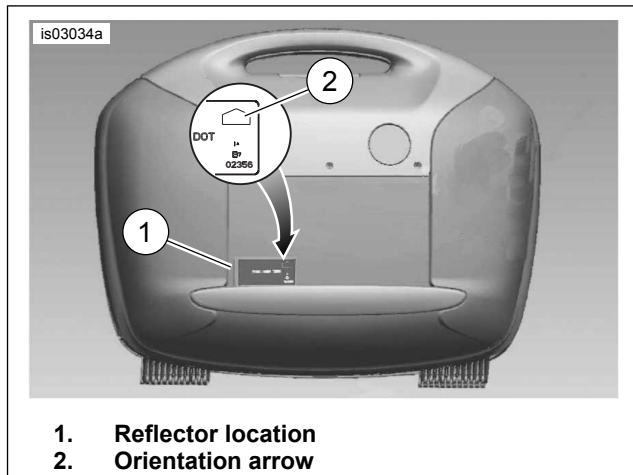
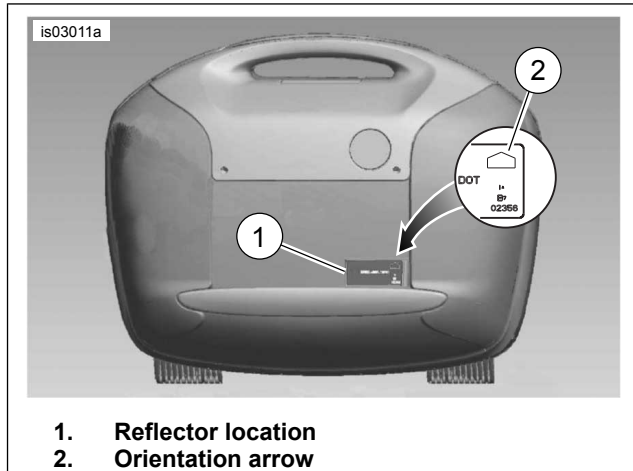

Figure 2. Reflector Mounting (Left Side)
Figure 3. Reflector Mounting (Right Side)
1. See Figure 2 and Figure 3. Clean the reflector area of the side case with a mixture of 50 to 70% isopropyl alcohol and 30 to 50% distilled water. Allow to dry thoroughly.
2. Peel the liner from the adhesive backing of the reflector. With the orientation arrow (2) on the reflector pointing up, carefully position the reflector to the side case and press firmly into place. Hold the reflector in position with steady pressure for 10-15 seconds for proper adhesion.